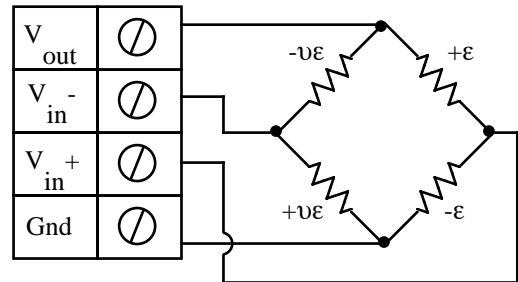
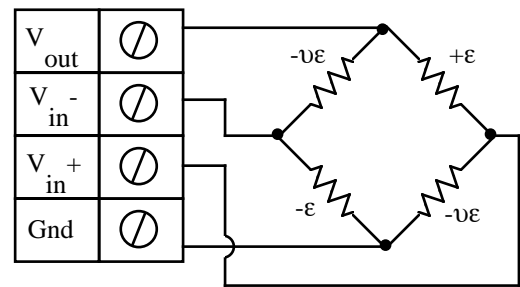

Fig 3.11 - Strain Measurement - Full Bridge Circuit (Axial I)
Fig 3.12 - Strain Measurement - Full Bridge Circuit (Axial II)
Measuring axial strain using a full bridge configuration involves wiring four strain gages as shown in either figure 3.11 or figure 3.12, applying a voltage across the bridge, and measuring the voltage across the two intermediate bridge nodes via a pair of instruNet Vin+ and Vin- input terminals. The excitation voltage for the bridge is supplied by either the instruNet Vout terminal or by an external voltage source. instruNet calculates the value of the strain, returning "strain" engineering units, using the equations:
4. Wire your voltage source per figure 3.11, and refer to the steps at the beginning of this chapter for more information on how to set up your
Measuring axial strain using a full bridge configuration involves wiring four strain gages as shown in figure 3.12, applying a voltage across the bridge, and measuring the voltage across the two intermediate bridge nodes via a pair of instruNet Vin+ and Vin- input terminals. The excitation voltage for the bridge is supplied by either the instruNet Vout terminal or by an external voltage source. instruNet calculates the value of the strain, returning "strain" engineering units, using the equations:
4. Wire your voltage source per figure 3.12, and refer to the steps at the beginning of this chapter for more information on how to set up your sensor.^{5,10}